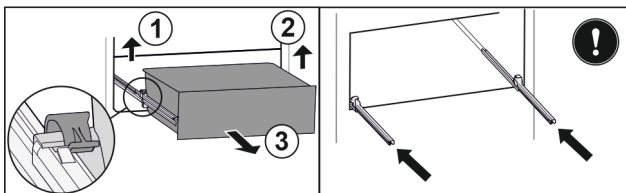

Fig. 211
- ▶ Lift left clamp and simultaneously pull drawer forwards on the left. Fig. 211 (1)
- ▶ Lift right clamp and simultaneously pull drawer forwards on the right. Fig. 211 (2)
- ▶ Remove drawer to the front. Fig. 211 (3)